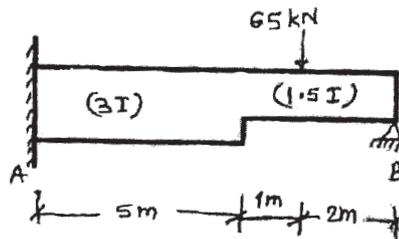

Fig. 4
- Q4) A propped cantilever beam AB of varying cross section and loaded as shown in Figure 4. Plot B.M.D. and S.F.D. for the beam using Moment Distribution Method. [18]